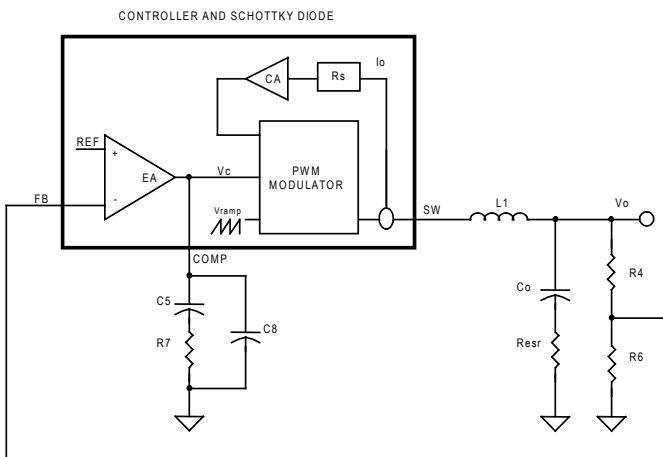

Figure 7 — Block diagram of control loops
the converter output needs to be loaded or V_{IN} needs to be increased. Using larger soft-start capacitor C_{SS} will also help in starting bootstrap because there will be current in the inductor over a longer period of time. Figures 7(a) and 7(b) show the minimum input voltage required to start bootstrap and to run before dropping out as a function of the load current. The minimum start-up V_{IN} decreases with higher dV_{IN}/dt or larger soft-start capacitor C_{SS} . The lines labeled “dropout” in these graphs show that once started, the bootstrap circuit is able to sustain itself down to zero load.
Figure 7. The Minimum Input Voltage to Start and to Run Before Dropout. The Regulator is Bootstrapped from its Output [Figure 6(a)]. D_1 is 1N4148. (a) $V_{OUT} = 5V$ (b) $V_{OUT} = 3.3V$
The block diagram in Figure 7 shows the control loops of a buck converter with the SC4524F. The inner loop (current loop) consists of a current sensing resistor ($R_s=5.5m\Omega$) and a current amplifier (CA) with gain ($G_{CA}=18.5$). The outer loop (voltage loop) consists of an error amplifier (EA), a PWM modulator, and a LC filter.
For a converter with switching frequency F_{SW} , output inductance L_1 , output capacitance C_o and loading R , the control (V_c) to output (V_o) transfer function in Figure 7 is given by: